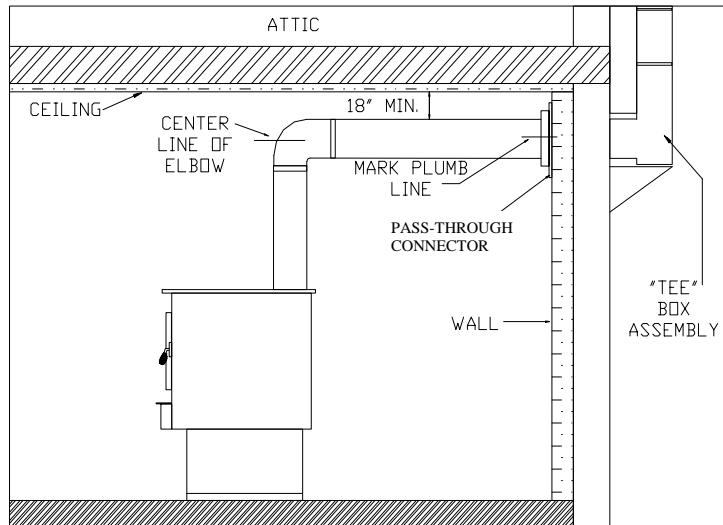

FIGURE 6 FLUE EXIT
1. Mark plumb line on twall directly behind center of heater. (See Figure 6)
3. Measure up so there will be at least 1/4" rise per foot of horizontal connector pipe, maintaining clearances to ceiling as noted in Figure 6. This will give you center of hole for chimney penetration.